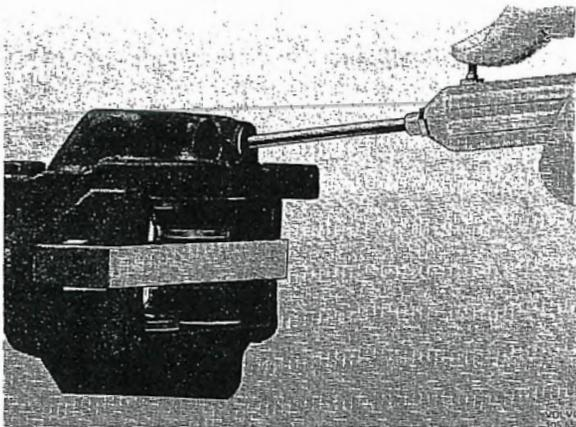

Fig. 5-21. Removing pistons
2. Remove the retaining rings for the rubber dust covers. Place a piece of wood, similar in shape to that shown in Fig. 5-3, between the pistons and press them out against the wood with the help of compressed air, see Fig. 5-21. The pistons can then be easily removed. Lever off the rubber dust covers.